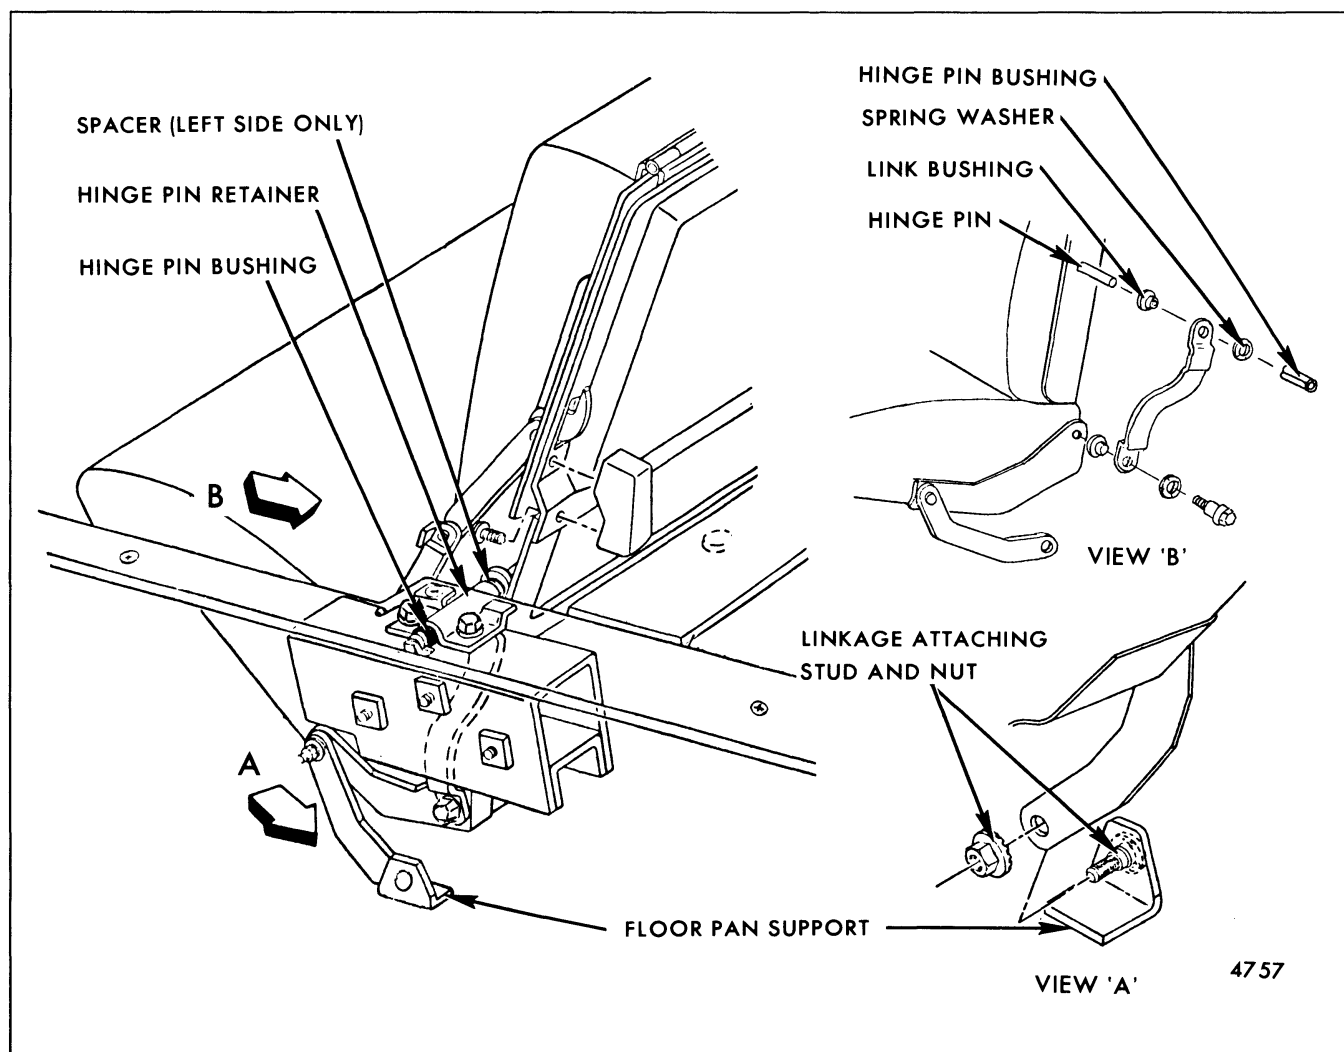

Fig. 9-83-Third Seat Cushion, Back and Linkage - "B" Body Three-Seat Station Wagon
2. To remove third seat cushion assembly, remove linkage to cushion attaching bolt (Fig. 9-83) at both sides of seat cushion and remove cushion assembly from body.
3. To remove third seat back assembly perform Step 2; then, remove both right and left rear floor side filler panels and remove seat back hinge pin retainer (Fig. 9-83) from both sides of seat back. Remove seat back assembly including filler panel from body.
4. To remove third seat cushion and back as an assembly, remove cushion linkage-to-floor pan support attaching bolt (Fig. 9-83); then, perform Step 3 and with aid of a helper lift seat cushion and back assembly, including linkage and back filler panel, from body.
5. To install seat cushion, seat back or seat cushion and back assembly, reverse removal procedure. Make sure hinge pin bushing (see Fig. 9-83) is installed over hinge pin at both sides of seat back prior to installing retainers.